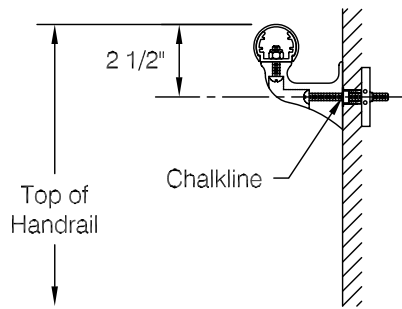

fig 1
- Step 1:** Determine top of handrail height and snap a chalk line 2 1/2" below for centerline of mounting hardware, see **fig 1**.